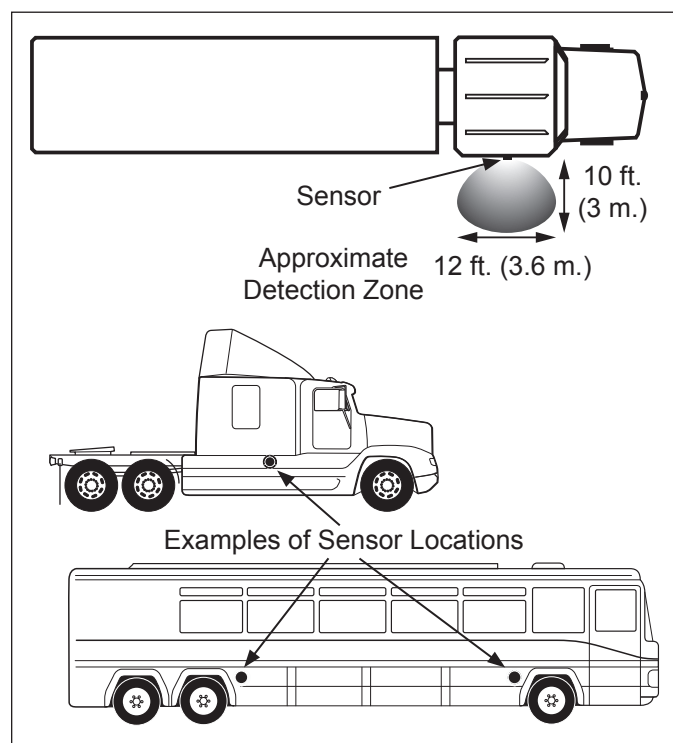

Figure 2 - Bendix BlindSpotter Radar Sensor Detection Zone and Example Locations
Used in conjunction with rear view mirrors and other instrumentation to maintain safe operation of the vehicle, the radar sensor(s) provide an approximate ten foot by twelve foot detection zone. See Figure 2.
The effective range is approximately ten (10) feet out from the vehicle and the detection zone extends approximately six feet forward and backward from the sensor. See *Figure 2*.